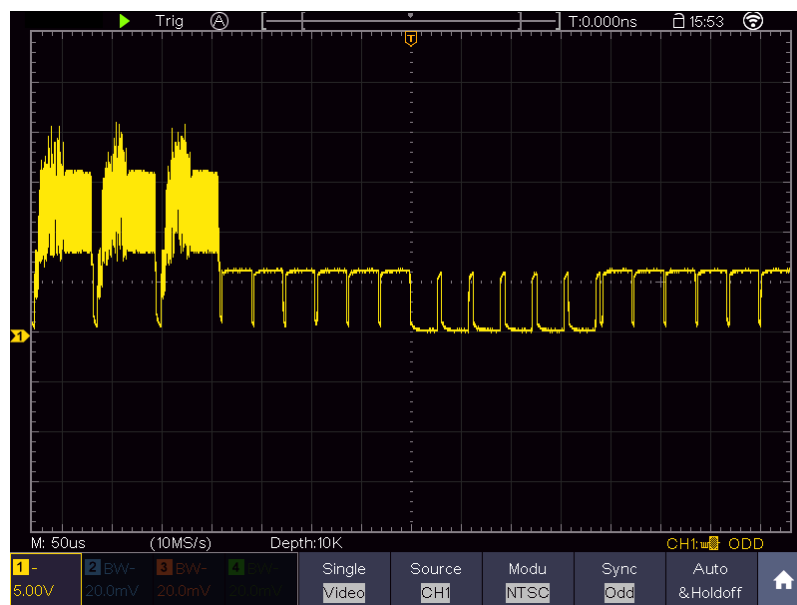

Figure 6-7 Waveform Captured from Video Field Trigger
- (1) Click  to call up the menu panel. Click the **Trig Menu** softkey on panel to display the Trigger menu.
- (2) Select the first menu item in the bottom menu. Select **Single** in the right menu.
- (3) In the left menu, select **Video** as the mode.
- (4) Select **Source** in the bottom menu. Select **CH1** in the right menu.
- (5) Select **Modu** in the bottom menu. Select **NTSC** in the right menu.
- (6) Select **Sync** in the bottom menu. Select **Field** in the right menu.
- (7) Adjust the vertical scale, vertical position and horizontal scale to obtain a proper waveform display (see *Figure 6-7*).